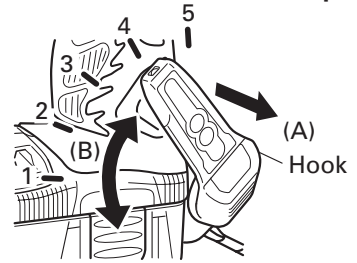

Fig. 7
(1) Operating the hook
(a) Pull out the hook toward you in the direction of arrow (A) and turn in the direction of arrow (B). (Fig. 7)